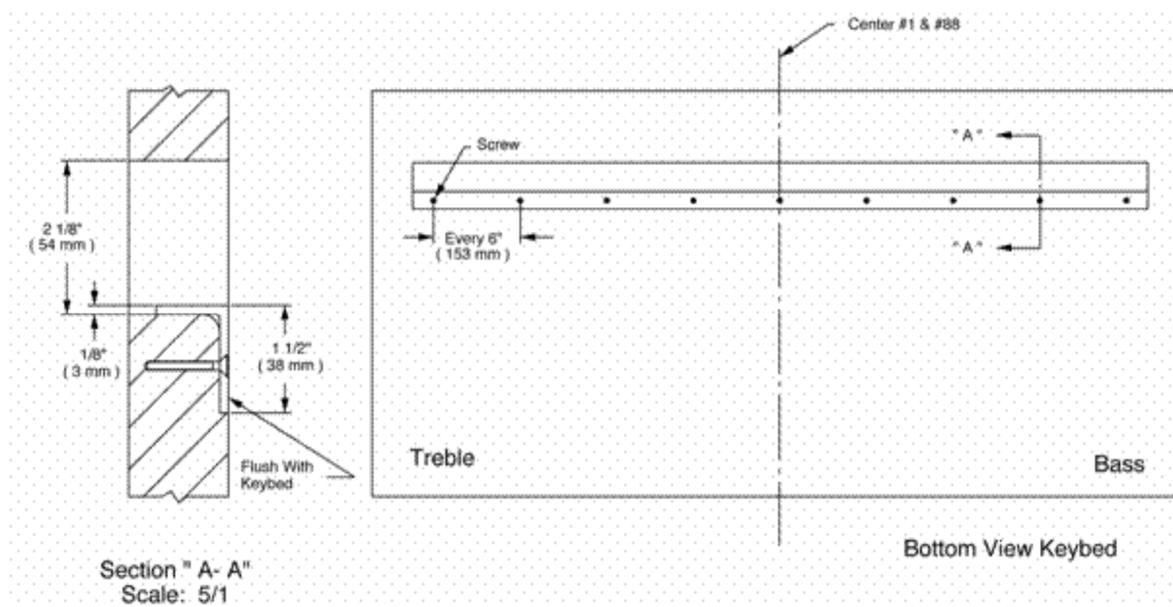

Figure 9
Note: On the plank style keybeds, the connecting point of the planks will most likely be cut away when the slot is cut. It is advisable to locate and router out the area for the angle iron support before cutting the solenoid slot. (See Fig. 9)
- Also, use a countersink bit on the holes drilled to flush mount flat head screws. (See Figure 9)
B. **Prepare the mounting location** for the angle iron by routing out the equivalent thickness and length along the bottom of the keybed. (See Fig. 9)